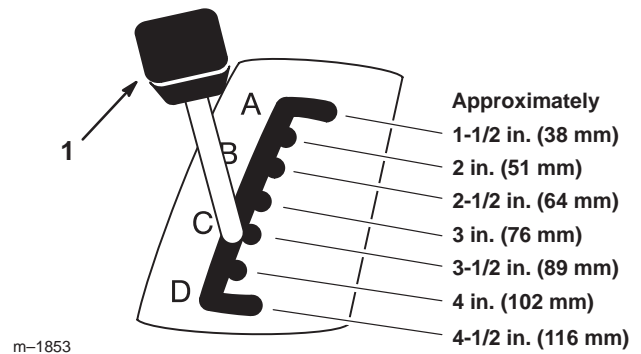

Figure 6
2. Pull on the height-of-cut lever on the tractor and move it to the desired position (Fig. 6).